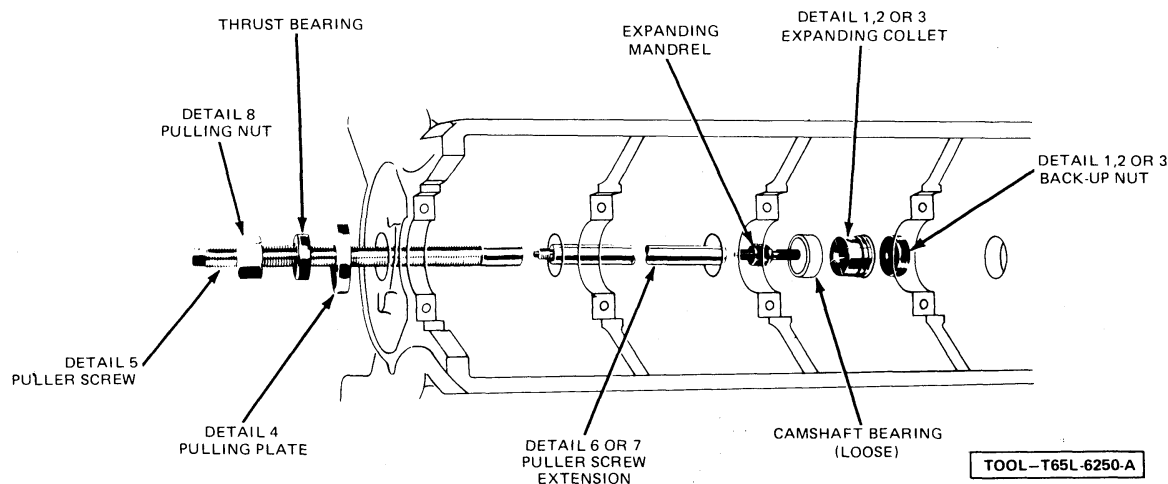

FIG. 47 Replacing Camshaft Bearing
3. Remove the camshaft rear bearing bore plug as detailed in Part 21-01. Remove the camshaft bearings with the tool shown in Fig. 47.
1. Position the new bearings at the bearing bores, and press them in place with the tool shown in Fig. 47. Be sure to center the pulling plate and puller screw to avoid damage to the bearing. **Failure to use the correct expanding collet can cause severe bearing damage.** Align the oil holes in the bearings with the oil holes in the cylinder block before pressing bearings into place. **Be sure the front bearing is installed the specified distance below the front face of the cylinder block.**